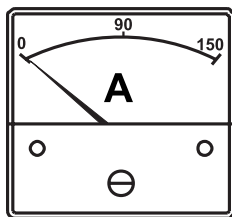

Figure 12. Ammeter (No Load)
8. The **ammeter** (Figure 12) will indicate **zero amps** with no load applied. When a load is applied, the ammeter will indicate the amount of current that the load is drawing from the generator.